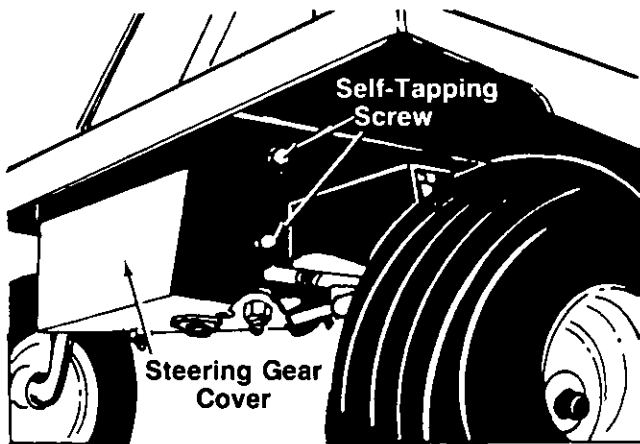

FIGURE 7.
14. Install the **steering gear cover (D)** as shown in figure 7, to cover the underside of the steering mechanism. Secure with two **self-tapping screws** on each side of the cover. Do not completely tighten any of these screws until all four of them are positioned correctly.